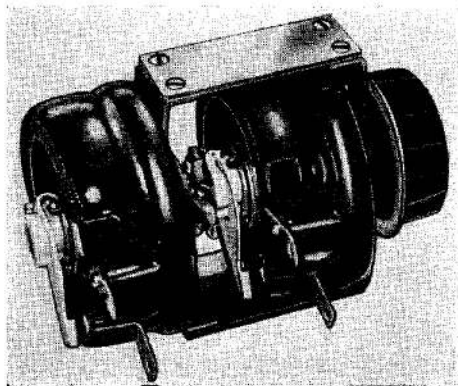

Fig. 1. Rheostat, Type G2
1. The Types G2 and G3 are multi-ganged units using pressed steel parts and couplings as shown in fig. 1. The unit is supplied with a collet fitting knob.